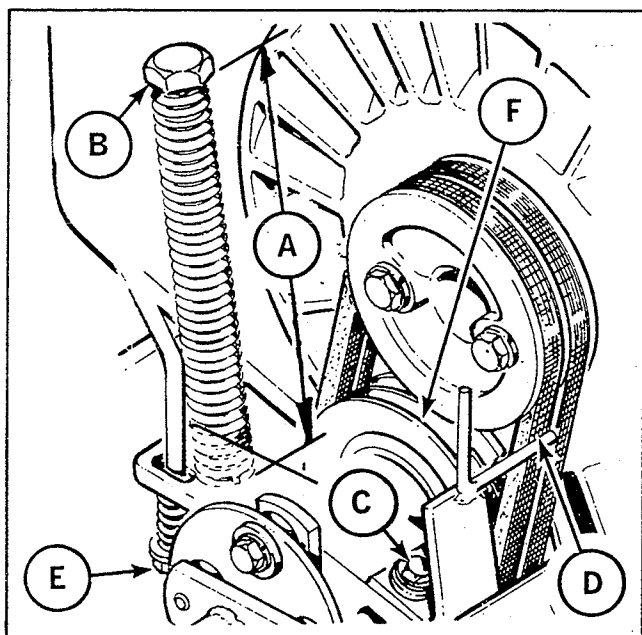

Figure 8. Tractor clutch belts and clutch pedal adjustments.
See figure 8. The clutch (drive belt) tension is determined by the distance from the casting at the base of the clutch tension spring to the top of the spring. This distance (A) shown in figure 8 should be 8 inches. As the belts wear, this distance may increase, causing tension on the belts to decrease and allowing them to slip. To adjust the main drive belt tension, proceed as follows:
4. See figure 8. Use a ruler or tape graduated in inches to measure the distance (A) from the casting surface to the top of the spring as shown. See Chart for Tolerances.
2. See figure 8. Turn lock nut counter-clockwise to increase amount of free travel or clockwise to decrease free travel. Alternately check amount of free travel and turn lock nut until amount of free travel measures as specified above.